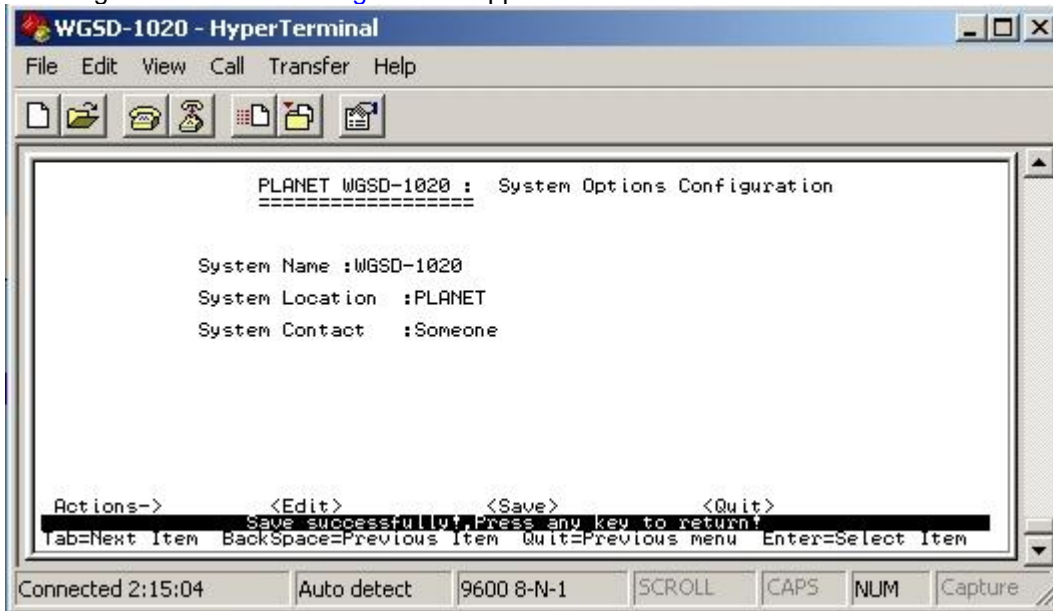

Figure 4-57 System Options configuration save successfully screen
2. After setup completed, press” **Ctrl-A**” to “**Action menu**” and choose “**save**” to save the current configure. The screen in Figure 4-57 appears.